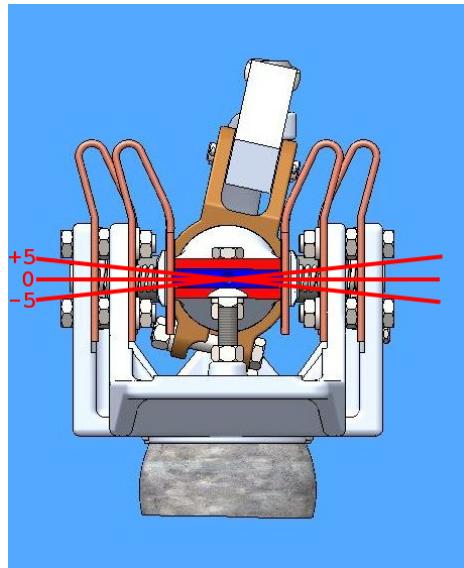

Figure 6: Blade Tip Alignment in Jaw
2.1.5. These switches will have adequate contact pressure if the blade has rotated to within plus or minus 5° of perpendicular in the contacts as shown in **Figure 6**. Adjustment of the bearing stop may be required.